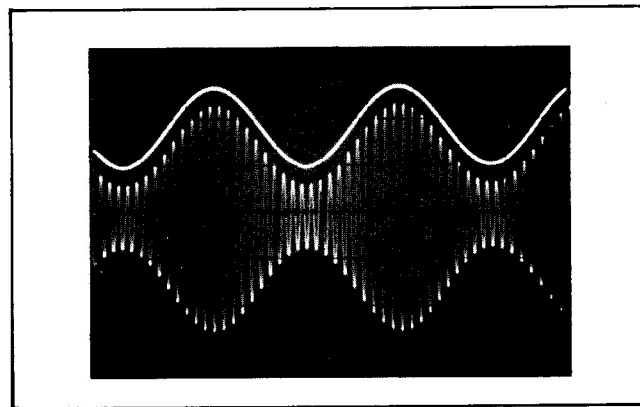

Figure 7. Amplitude Modulator Output
22. Figure 7 is the presentation on a dual-trace oscilloscope of the output of a typical Model 10534A Mixer used as an amplitude modulator. Upper trace is modulating waveform. Lower trace is output of Mixer. In this case, the carrier was